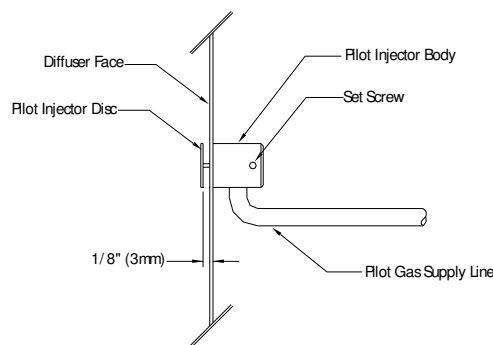

Figure 6: Gas pilot injector
Step 5: Once the desired gap has been obtained, tighten jam screws/washers as illustrated in Figure 6. The washer, once tight, should compress against the head of the gap adjusting screw (item 3). Ensure that this is the case. Replace washer as needed if compression does not take place.